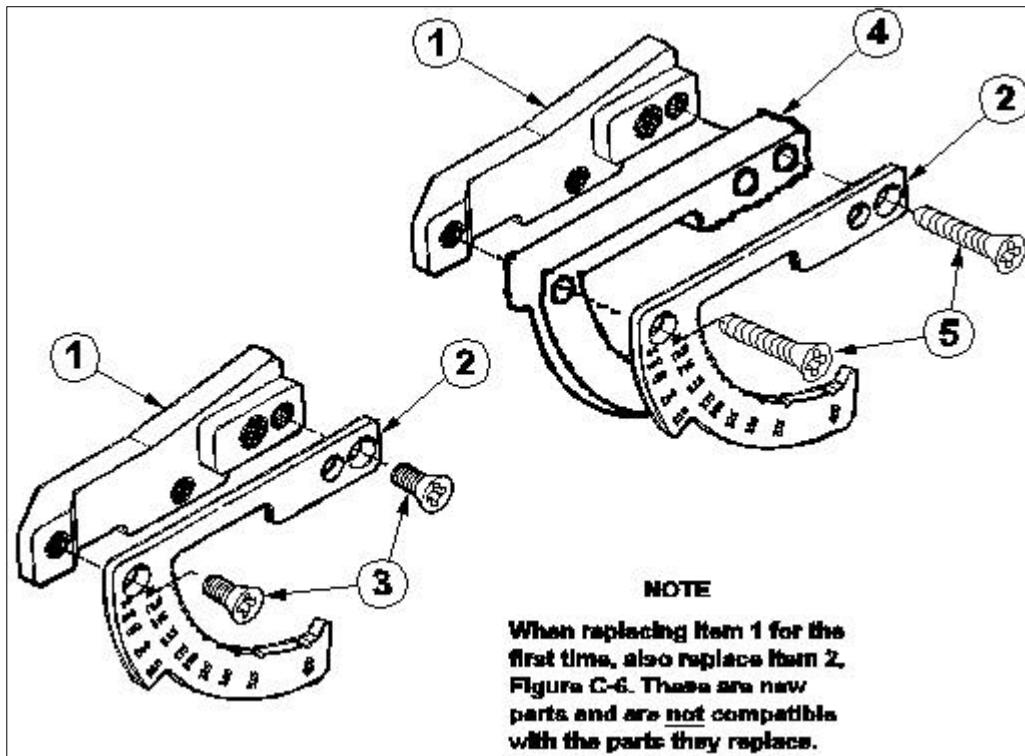

Figure C-7. Quadrant, Range Assembly M203 9346305 and M203A1/M203A2 12598116
**When replacing Item 2 for the first time, also replace Item 1, Figure C-7. These are new parts and are not compatible with the parts they replace.**
GROUP 0701 QUADRANT, RANGE ASSEMBLY M203 9346305 AND M203A1/M203A2 12598116 FIG. C-7 QUADRANT, RANGE ASSEMBLY